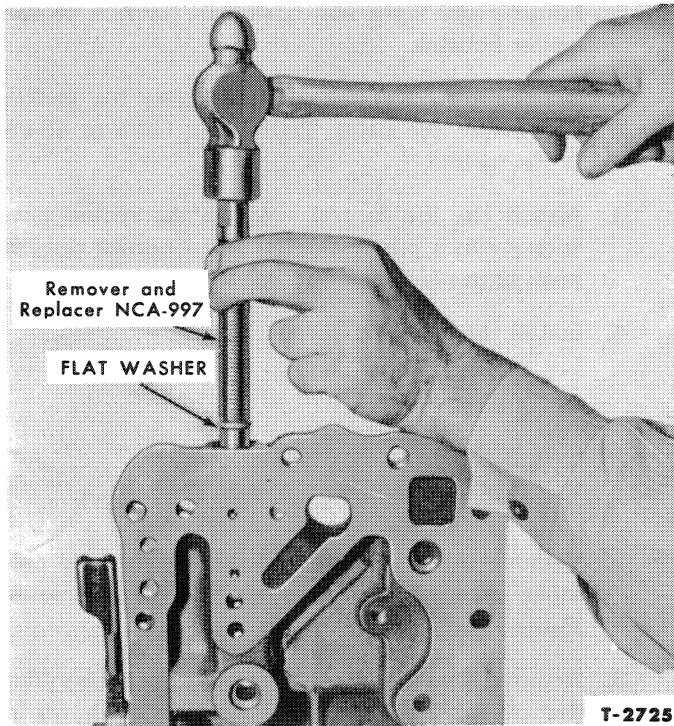

Figure 8—Installing Check Valve Seat
3. Remove the thrust washer and bearing from Remover and Replacer NCA-997. Install the check valve seat in the lift cover, as shown in Figure 8.